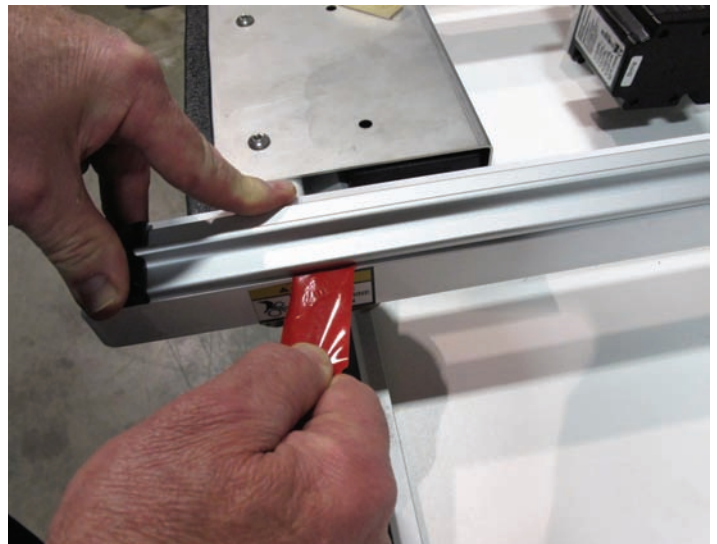

Figure 13
Step 9: Once the left-side track is in position and the end caps are lightly tightened, pull the tape backing out from under the track (**Figures 13, 14 and 15**). After removing the tape backing, firmly press the track down to bond it to the carriage rail (**Figure 16**). Fully tighten the end cap screws **but do not over-tighten them**.